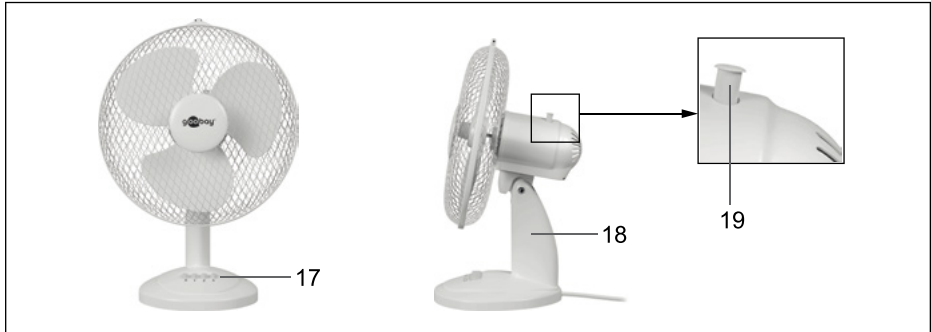

Fig. 17: Ready mounted table fan
11. Pull the resulted ring onto the edge of the rear protective grille (14).
The edge of the protective grille must lie in the rear groove (15) of the fixing tape. Fig. 17 a).
12. Insert the front guard grille (6) into the front groove (16) of the fixing strip. Fig. 17 b).
13. Tighten the Phillips screw further clockwise using a Phillips screwdriver. Fig. 17 c).
The blower intensity can be adjusted in 3 steps by pressing the push buttons 0-3 (17, fig. 17):